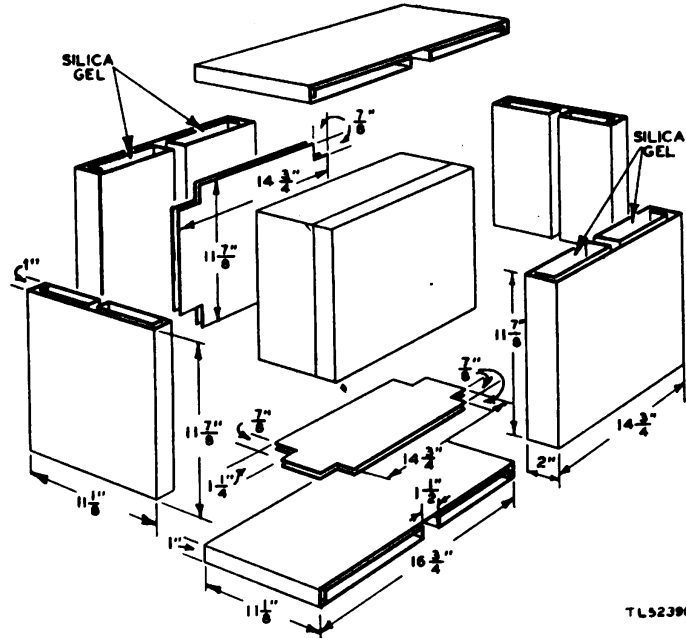

Figure 15. Unpacking Time Interval Apparatus EE-85.
metal straps are placed 3 inches from each end of the box for reinforcement purposes. See figure 15 for inside dimensions and packing details.
d. Remove the top of the packing case and all the protective pads (figs. 15 and 16).